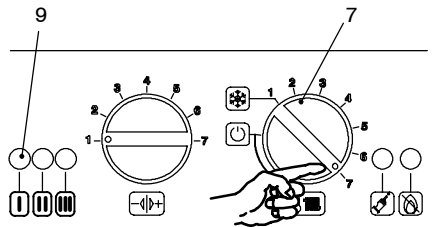

Fig. 7.5
- 3 Turn the boiler ON positioning the control selectors 7 in the positions as shown in Fig. 7.5 and ensure that the timer selector switch and room thermostat, if fitted, are set to "heat demand".
- 4 Watch the gauge and check to see if the ignition pressure registered corresponds to the values as given in the Technical Data. Turn off the boiler and reignite it by turning the function selector 7 to the OFF position and then back to that indicated in Fig. 7.5.